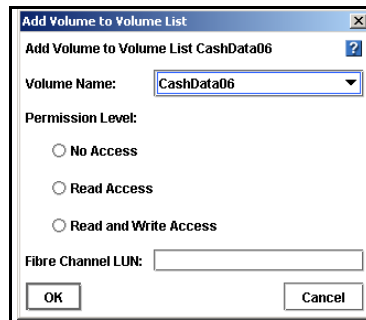

Figure 206. Adding a Volume to a Volume List
- The Add Volume to Volume List window opens, shown in Figure 206.